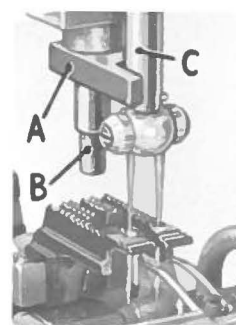
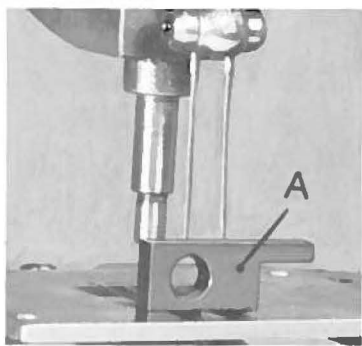
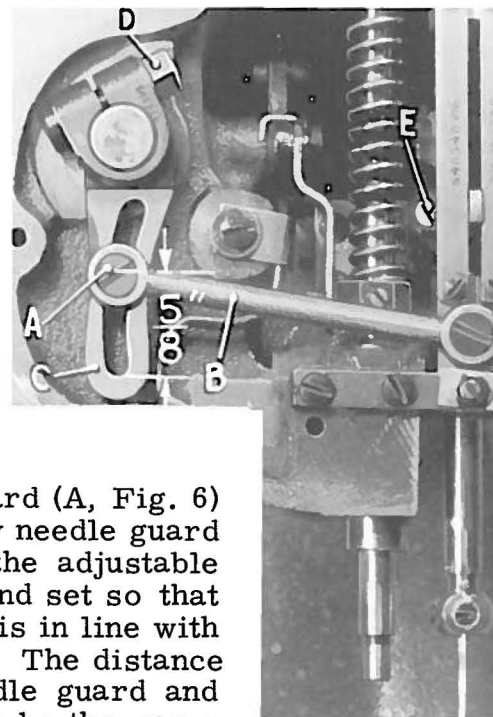
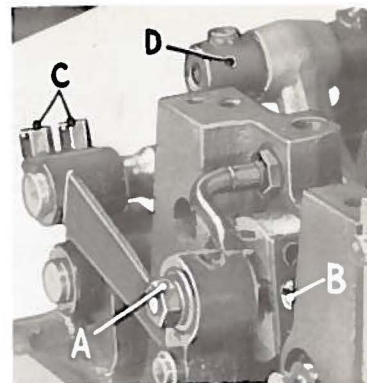

Fig. 3
Fig. 5
Fig. 4
Fig. 13
To establish the correct location of the needle bar when the needle bar is at the bottom of its travel use gauge No. 21227 BT (A, Fig. 3). Loosen nut on needle feed
drive lever (D, Fig. 4). Place gauge 21227 BT on presser bar (B, Fig. 3) with part number up. Rotate gauge in a counterclockwise direction so the shortest surface slips between the presser bar (B) and the needle bar (C) and the longest surface stops against the needle bar. With the needle bar at the bottom of its travel, hold needle bar firmly against the gauge and re-tighten nut (D, Fig. 4).
Using Type 134 GS needles, set the height of the needle bar so that the points of the needles are approximately $1/2$ inch above the top surface of the throat plate when the needles are at the high point of travel using gauge No. 21227 BT (A, Fig. 5) on its side. Loosen screw (E, Fig. 4) and move needle bar up or down as required and then tighten screw.
Set the needle travel at $\frac{9}{64}$ inch, which is approximately 7.2 stitches per inch. To set the needle travel, loosen screw (A, Fig. 4) and slide link (B) up or down, so the center line of screw (A) is located $\frac{5}{8}$ inch above the bottom of slot in needle feed drive lever (C, Fig. 4). Retighten screw (A). Check the $\frac{1}{2}$ inch needle travel above the top of the throat plate and readjust, if necessary.
Start operating on a piece of fabric. Set stitch to required length. To alter stitch length, loosen nut (A, Fig. 13) (it has a left hand thread) and turn screw (B) in head of main shaft until desired stitch length has been attained and tighten nut. Turning screw in a clockwise direction shortens the stitch and turning screw in a counterclockwise direction lengthens the stitch. The travel of the needle bar should be changed to correspond to the travel of the feed dog and this is accomplished by loosening screw (A, Fig. 4) and sliding link (B) up or down until the movement of the feed dog and needle bar are synchronized. Sliding the link upward shortens the travel of the needle bar and sliding it downward lengthens the travel of the needle bar.
Space the feed dog so there is a clearance of about $\frac{1}{64}$ inch on the sides and between front of needle hole and needle. This is accomplished by loosening the screws (C, Fig. 13) which clamp the feed rocker arm to the feed rocker (D) and moving the feed rocker forward or backward as needed. Tighten screws securely after proper setting has been attained. Should it be necessary to move the feed dog
To set feed dog travel to correspond with needle travel, loosen nut (A, Fig. 13) (it has a left hand thread) and adjust screw (B) until movement of needle and feed dog are synchronized. Turning screw in a clockwise direction shortens the travel of the feed dog, and turning screw counterclockwise will lengthen the travel. Re-tighten nut.